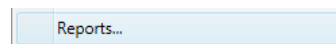

Figure 3-20 – Reports Menu
- **Reports** (see Figure 3-20): This option allows the operator to generate predefined reports, see Section 3.3.6.